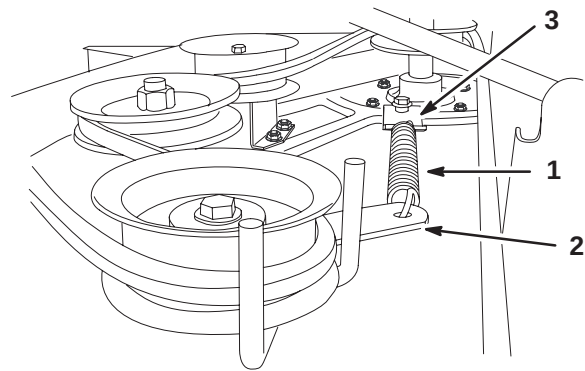

Figure 17
5. Unhook the spring on the idler pulley arm from the bracket on the mower (Fig. 17).